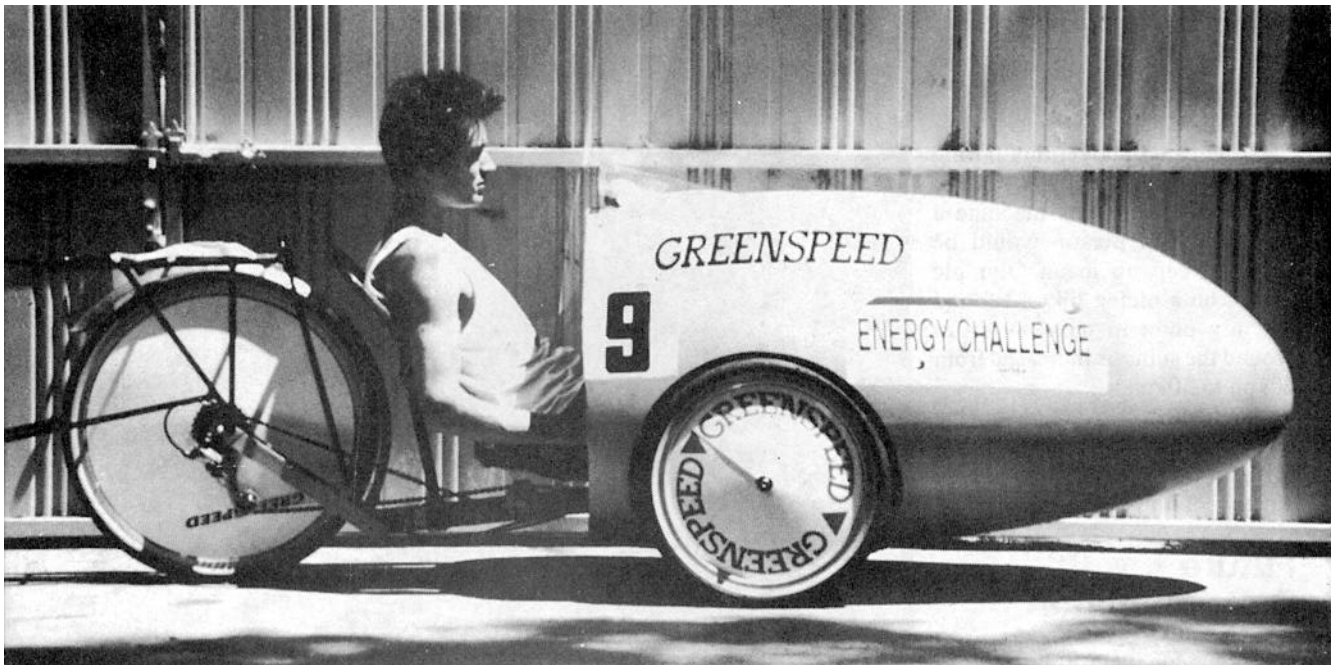

Figure 3. The Greenspeed trike without the tail, showing the driver position and the shape of the nose.
In side view, there are two ellipses: a deep one over the top and a shallow one underneath. Both are centred above the front axle (Figure 3). In front view, the top "half" is semi-circular, and the bottom again an ellipse.
Cut-outs were made for the front wheels and reinforced with a strip of carbon fibre tape. A strip of Velcro was glued into place inside the rear edge to attach the tail. The tail was sewn up from hang glider sails with a scallop and eyelets at the rear to allow tensioning with shock cord (see Figure 3). A finishing touch was some wheel covers, supplied by Flipt Disc (phone (03) 331 6324).